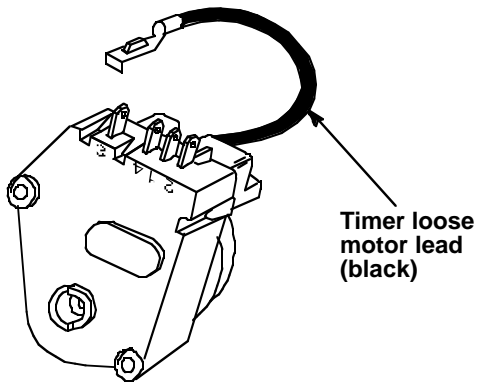

Figure 6
1. Remove plastic insulator from loose black timer motor lead. See Figure 6.